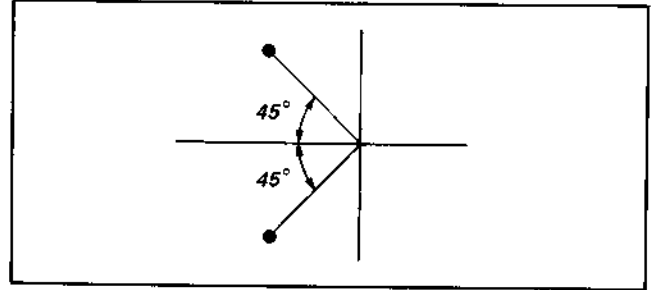

Fig. 4-37. Vectorscope adjustment
- (3) Adjust the PHASE knob of the vectorscope for matching the burst signal phase. (see Fig. 4-37).